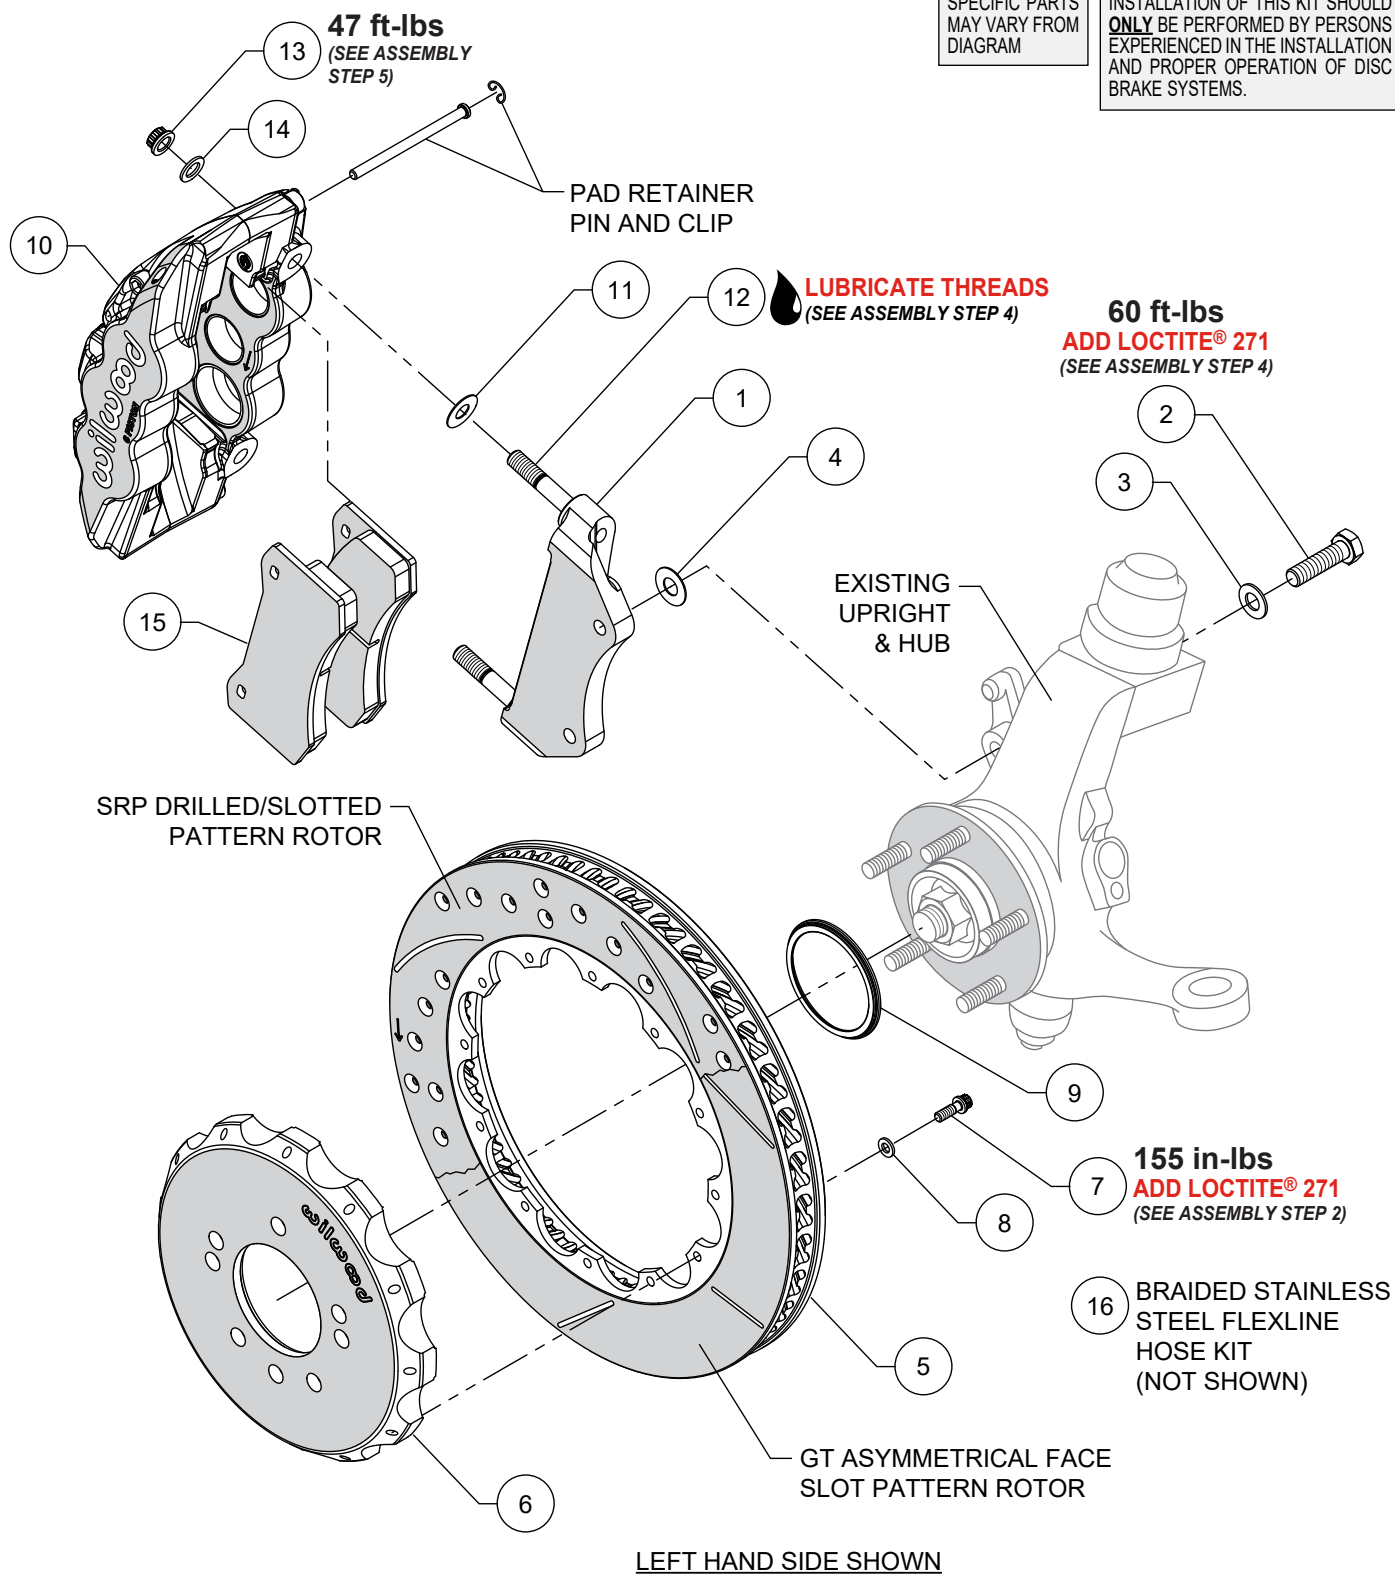
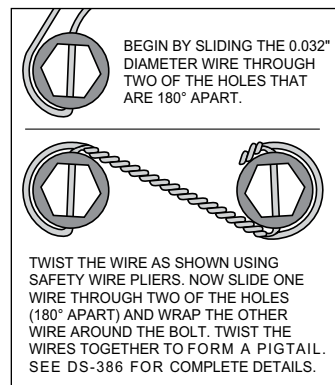

Figure 1. Typical Installation Configuration
Figure 2
NOTE: Numbers in parenthesis refer to the parts list and Figure 1 on the preceding pages.
STEP 1 The caliper mount bracket (1) should initially be installed with clean, dry threads on the mounting bolts. Orient the bracket as shown in Figure 1 and Photo 1, and install using mounting bolts (2) and washers (3). Initially place one .033" thick shim (4) on each bolt (2) between the bracket and upright, Figure 1. Temporarily tighten the mounting bolts. **NOTE:** *The bracket must fit squarely against the mount bosses on the upright.* Inspect for interference from casting irregularities, machining ridges, burrs, etc. Later, after the caliper alignment has been checked, the mount bolts will be secured using red *Loctite*® 271.
STEP 2 Orient the rotor (5) and the hat (6) as shown in Figure 1 and Photo 2. Attach rotor to hat using bolts (7) and washers (8). Apply red *Loctite*® 271 to the bolt threads and torque to value shown in Figure 1 using a criss-cross pattern. For an added measure of security, the bolts may be safety wired using standard 0.032 inch diameter stainless steel safety wire as shown in Figure 2. Please refer to Wilwood's data sheet DS-386 (available at www.wilwood.com/Pdf/DataSheets/ds386.pdf) for complete safety wire installation instructions.
STEP 3 Install the rotor registration adapter (9) onto the register of the hub assembly with the smaller O.D. facing outward, Photo 3. Slide the hat/rotor assembly (5 and 6) onto the hub assembly. **NOTE:** *The hat must fit flush against the hub flange or excessive rotor run out may result.* Install three lug nuts (finger tight) to keep the hat/rotor assembly in place while continuing with the installation, Photo 4.
STEP 4 **NOTE:** *This kit contains distinct right and left hand calipers that must be mounted in a specific direction, as described below.* Lubricate the caliper mounting studs (12) with lightweight oil. Initially place one .030" thick shim (11) on each stud between the caliper and the bracket, as shown in Figure 1 and Photo 5. Mount the caliper (10) onto the bracket (1) using lock nuts (13) and washers (14), Figure 1. Temporarily tighten the lock nuts. Ensure that the caliper is mounted so the largest pistons are at the rotor exit end of the caliper, in relation to the forward rotation of the rotor. View the rotor through the top opening of the caliper. The rotor should be centered in the caliper, Photo 6. If not, adjust by adding or subtracting shims (4) between the bracket and the spindle. Always use the same amount of shims on each of the two mounting bolts. Once the caliper alignment is correct, remove the bracket mounting bolts (2) one at a time, apply red *Loctite*® 271 to the threads, and torque to value shown in Figure 1.
STEP 5 Remove the caliper from the bracket, then remove the caliper pad retainer clips and pins. Insert the brake pads (15) into the caliper from the bottom side, with the friction material facing the rotor, as shown in Photo 7. Mount the caliper and check that the top of the brake pad is flush with the outside diameter of the rotor. If not, adjust by adding or subtracting shims (11) between the caliper and the bracket. After the caliper pad height is set, reinstall the pad retaining pins and clips, Photo 8. Torque the caliper lock nuts (13) to value shown in Figure 1.